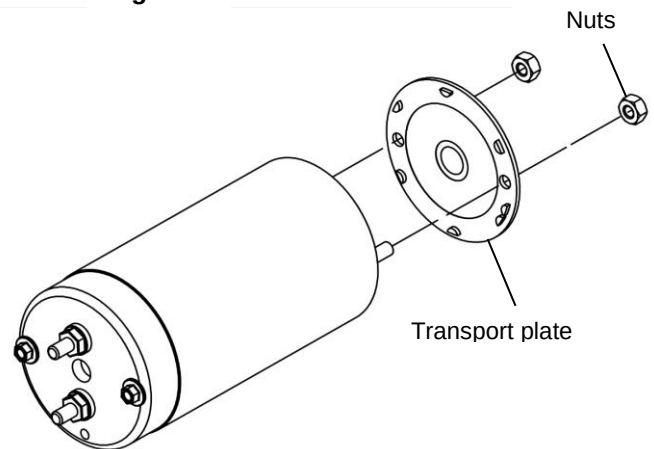

Figure 4
6. **Figure 4.** If the motor is less two years old, install a transport plate and return the motor to **E-Cargo** for examination.